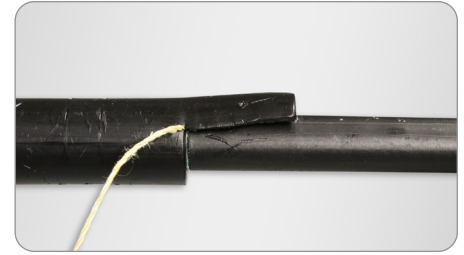

Figure 17
- Armored cables can be bonded using Apex ground clips. Simply slit cable armor on both sides at approximately 1" and install bonding hardware. (Figure 17)